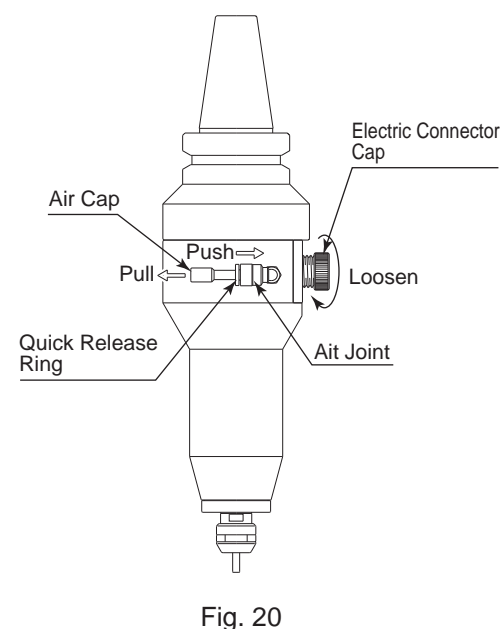

Fig. 20
- Remove the Electric Connector Cap from the HES Brushless Motor Spindle by turning counterclockwise (Fig. 20).
- Remove the Air Cap from the HES Brushless Motor Spindle's Air Joint (Fig. 20).